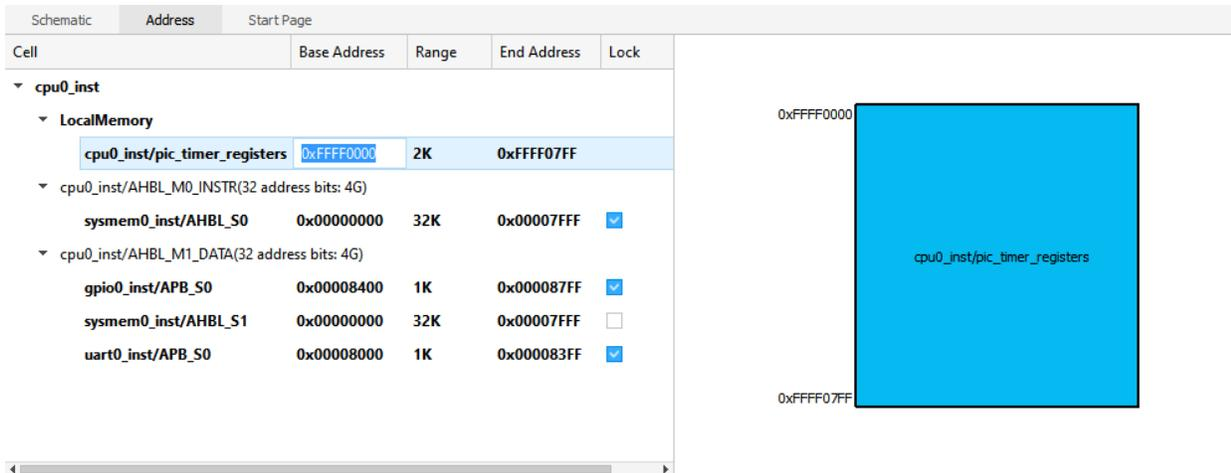

Figure 2.53. Edit Base Address
4. (Optional) Double-click the base address in Address view (Figure 2.53). Type the new value and press **Enter**. Values must align with 1K boundaries, such as 0x00000400, 0x00000800, or 0x00000C00. The end address value changes based on the new value. The Lock option is selected automatically at this time.